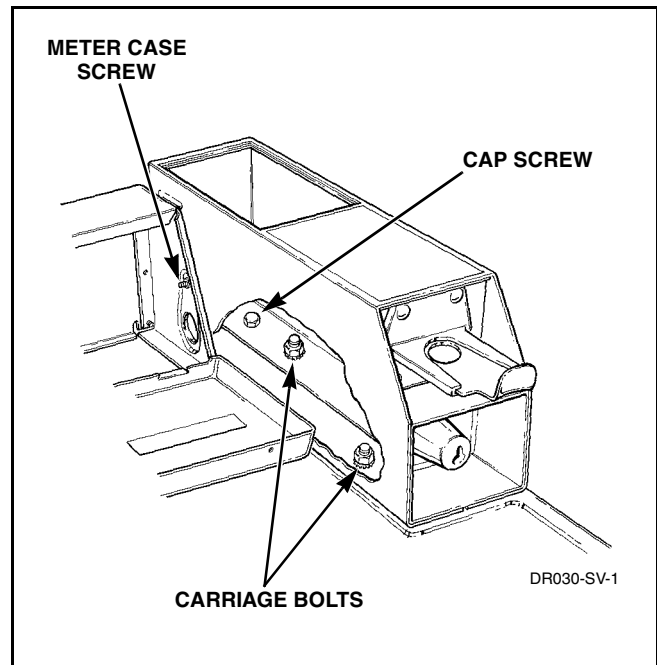

Figure 12
- g. Remove one hex head cap screw (right rear corner) holding meter case to cabinet top. Refer to *Figure 12*.
- h. Remove nut, lockwasher and screw holding meter case to right end of control hood. Refer to *Figure 12*.
- o. Lay the cabinet top assembly flat, remove two carriage bolts, washers, lockwashers and nuts holding meter case to cabinet top and remove meter case. Refer to *Figure 12*.
- p. Lay cabinet top flat, remove two carriage bolts, washers, lockwashers and nuts holding meter case to cabinet top and remove the meter case. Refer to *Figure 12*.